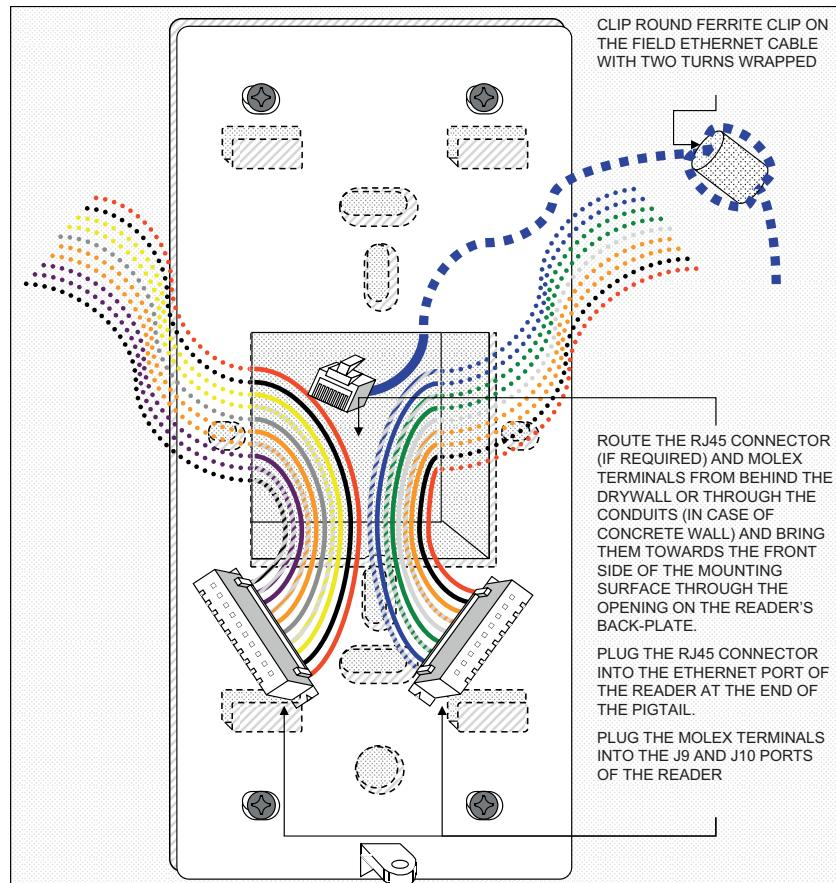
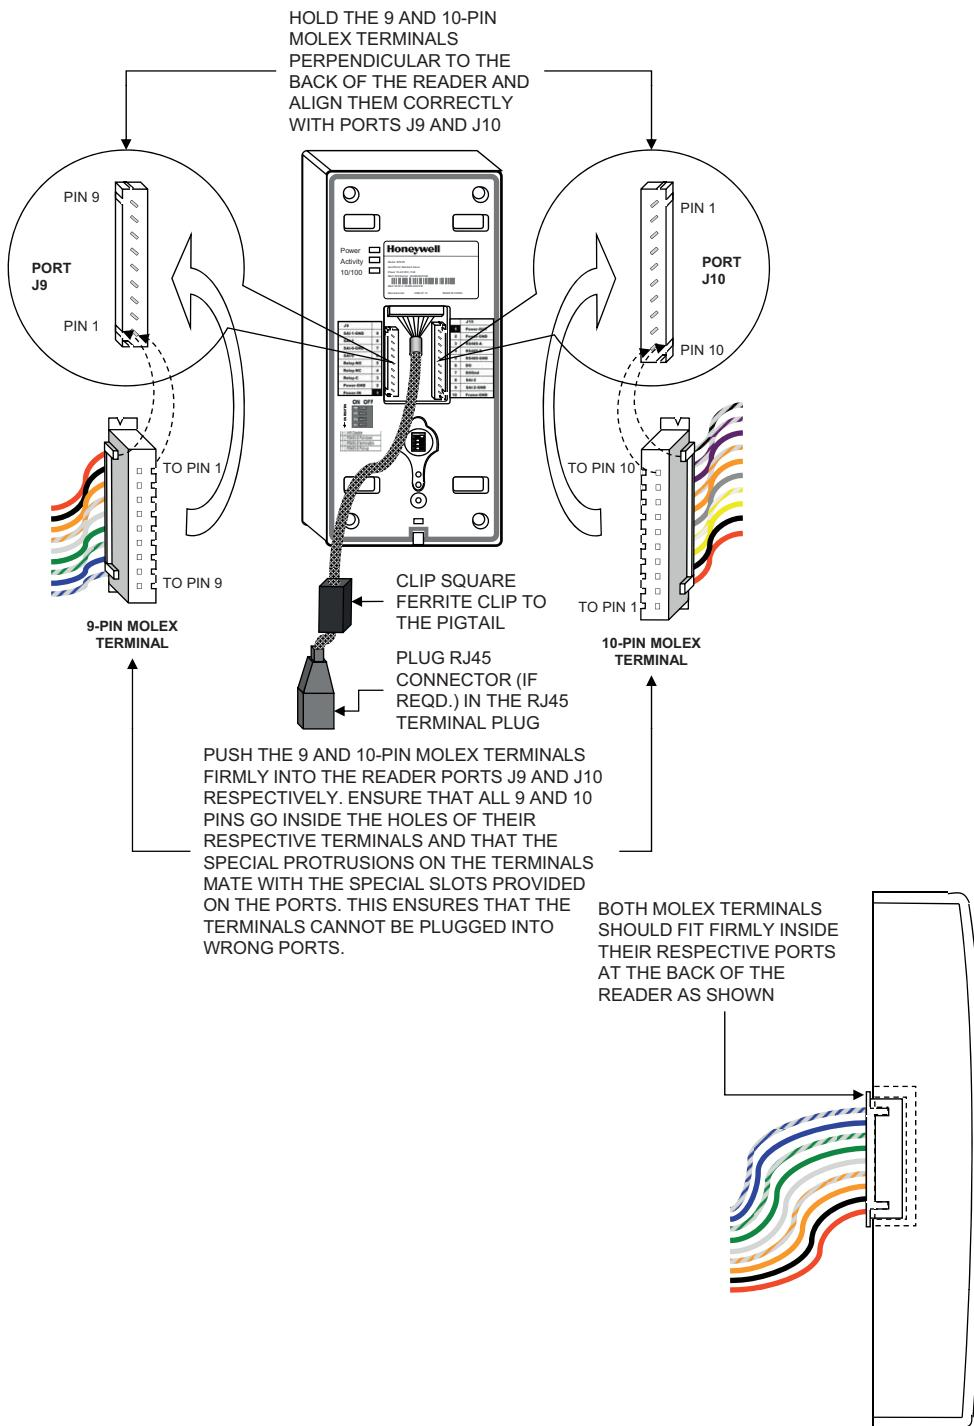

Fig. 6. Routing the wires before plugging the connectors into the reader
Fig. 7. Plugging the connectors into the IdentPoint reader
4. Route the field wires including the Ethernet cable (if required) from behind the drywall through the cable opening and bring them to the front of the mounting surface. See Fig.6. Clip the square* ferrite clip on the reader's Ethernet pigtail. See Fig.7. Connect the field wiring to the correct Molex pigtails. See Table.2 for wire sizes and distances. For reader connection details see Fig.11 and Table.5 and Table.6. Plug the Molex terminal(s) in ports J9 and J10 at the back of the reader. See Fig.7. Clip (with two turns wrapped) the round** ferrite clip on the field Ethernet cable. See Fig.6. Plug the RJ45 connector of the field Ethernet cable into the Ethernet port of the reader provided at the end of the pigtail. See Fig.7. Allow room for the Molex and Ethernet pigtails inside the gang box. Set the S1 DIP switch if the reader is to be connected to an IOM via RS485. See Fig.11, Table.7 and Section *RS485 Communication and Termination Setting of Connector and Switch Descriptions* topic for more details.
3. Route the field wiring including the Ethernet cable (if required) from the conduits into the gang box. Clip the square* ferrite clip on the reader's Ethernet pigtail. See Fig.7. Connect the field wiring to the correct Molex pig-tails. See Table.2 for wire sizes and distances. For reader connection details see Fig.11 and Table.5 and Table.6. Route the Molex terminal(s) through the cable opening on the back-plate towards the front of the mounting surface (see Fig.6) and plug them in ports J9 and J10 at the back of the reader. See Fig.7. Clip (with two turns wrapped) the round** ferrite clip on the field Ethernet cable. See Fig.6. Plug the RJ45 connector of the field Ethernet cable into the Ethernet port of the reader provided at the end of the pigtail. See Fig.7. Allow room for the Molex and Ethernet pigtails inside the gang box. Set the S1 DIP switch if the reader is to be connected to an IOM via RS485. See Fig.11, Table.7 and Section *RS485 Communication and Termination Setting of Connector and Switch Descriptions* topic for more details.